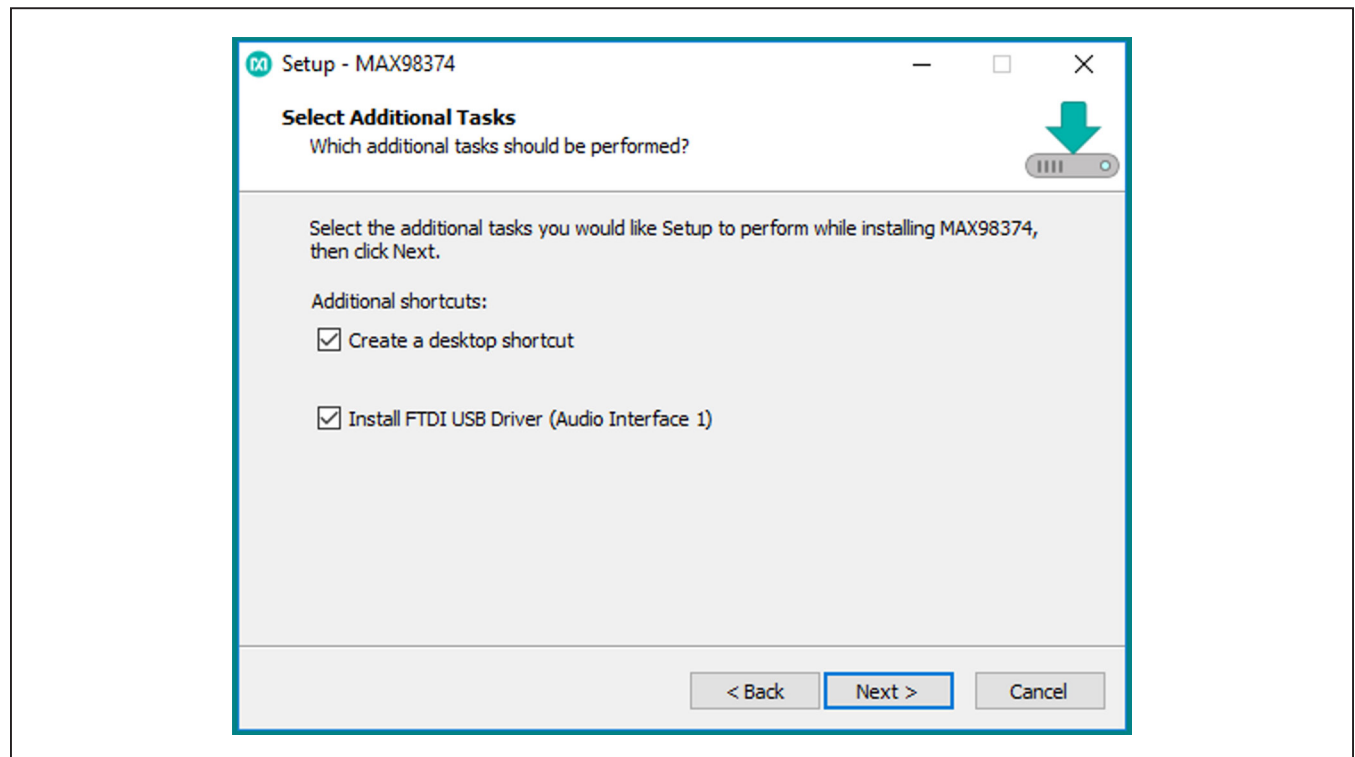

Figure 1. Software Installer, FTDI USB Driver Selection
- 2) Install the software and USB driver on your computer by running the program installer MAX98374EVSwtSetup.exe. Program files are copied, and icons are created in the Windows Start | Programs | Maxim Integrated | MAX98374 Evaluation Software folder. Follow the installer prompts to completion. For first time installations, at the **Select Additional Tasks** page, be sure the **Install FTDI USB Driver (Audio Interface 1)** check box is selected as shown in Figure 1. The FTDI drivers are needed for I2C communication with the device through the Audio Interface 1 application board. Windows might display a message indicating that this software is from an unknown publisher. This is not an error condition and it is safe to proceed with the installation.